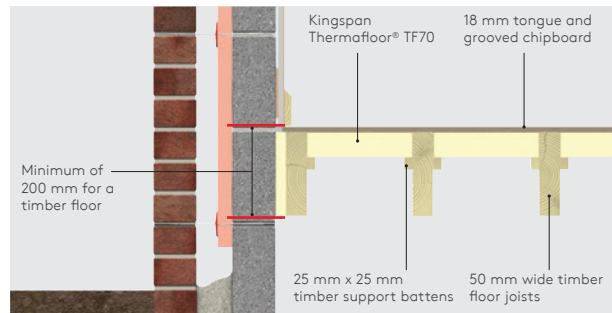

Figure 9 - Complete timber floor insulation
- In order to minimise cold bridging at the edge of the floor, the distance between the top surface of the floor insulation or perimeter insulation upstand, and the bottom of the wall insulation must be a minimum of 150 / 225* mm (see Figures 1 & 2) for a concrete floor and 200 mm for a suspended timber floor (see Figure 9). The further down the wall insulation extends past the floor insulation, the better the thermal performance of the junction between the wall and the floor.